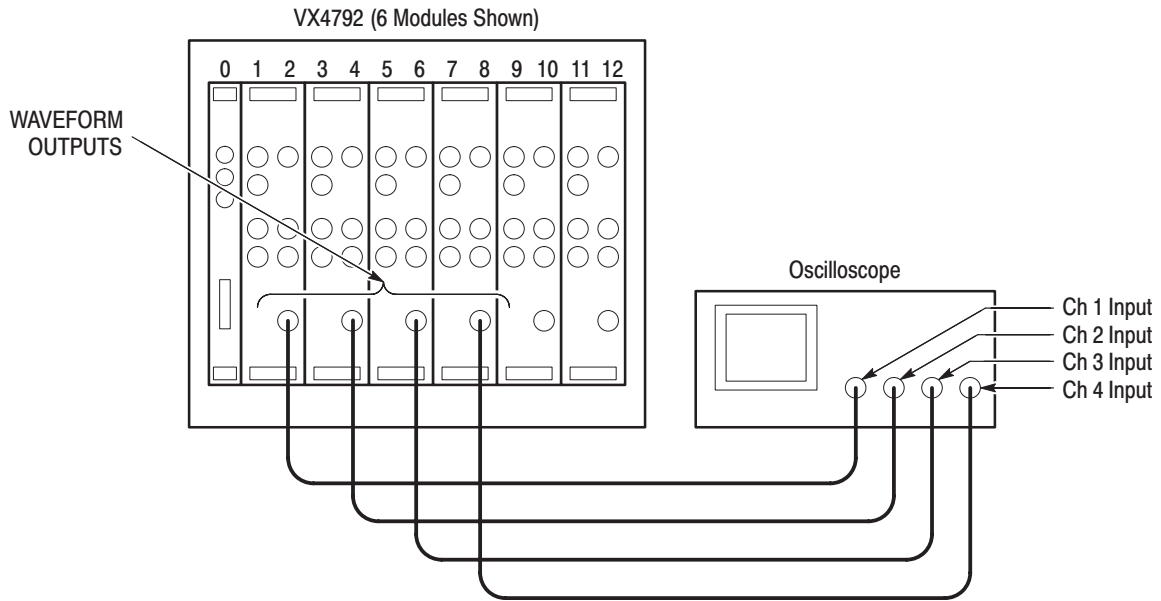

Figure F-19: Synchronous Operation Initial Test Setup
2. *Install test setup and set test equipment controls (see Figure F-19):*